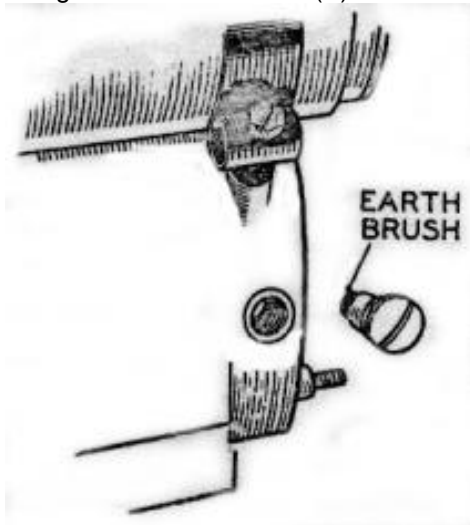

Fig. 52. Magneto earthing brush.
contact breaker off the shaft. Spring the wire ring (Q), securing the cam (R), out of its location in the contact breaker housing and remove the cam. Unscrew the cable stop (S) of the timing control and remove the control plunger (T). Remove the pick-up holder and the small earthing brush (Fig. 52) which will be found on the side of the magdyno. Unscrew
Refit the earthing brush (Fig 52).